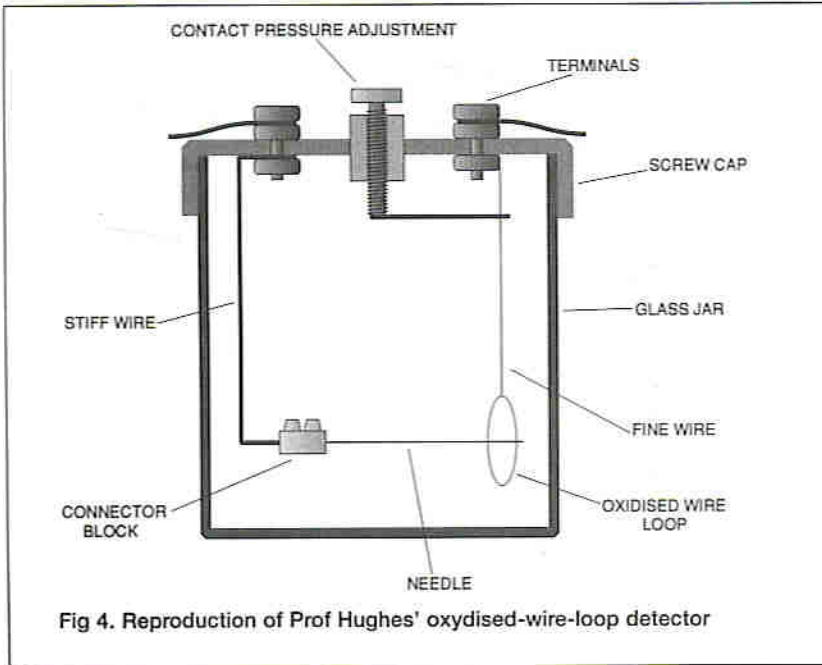

Fig 4. Reproduction of Prof Hughes' oxydised-wire-loop detector
C. Hughes' oxidized copper wire/steel needle (Fig 4)